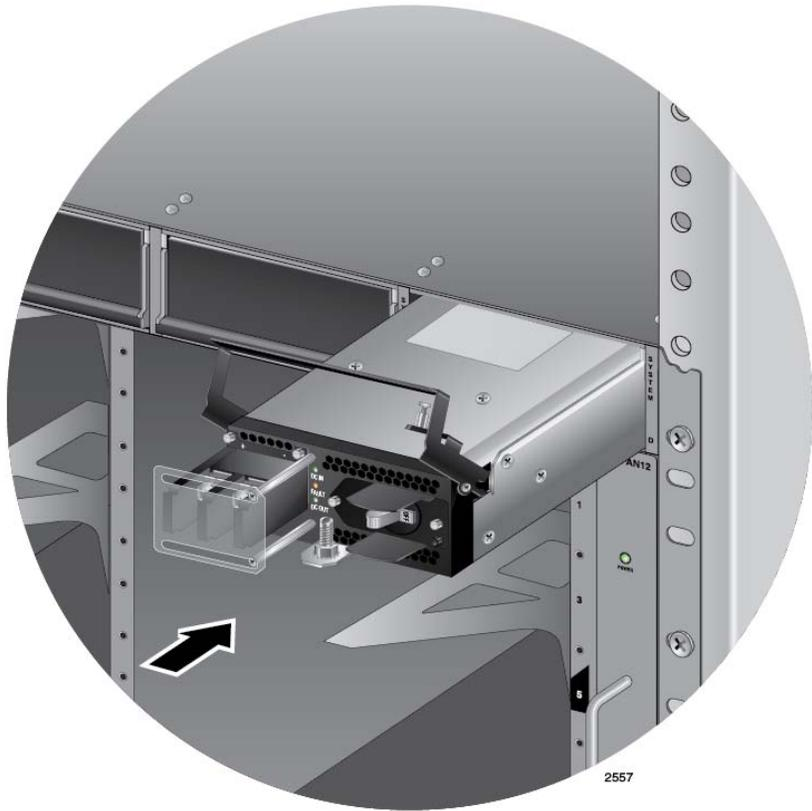

Figure 62. Inserting the AT-SBxPWRSYS1 DC System Power Supply
6. Align and insert the AT-SBxPWRSYS1 Module into slot C or D. Figure 62 on page 123 shows the power supply installed in slot D.